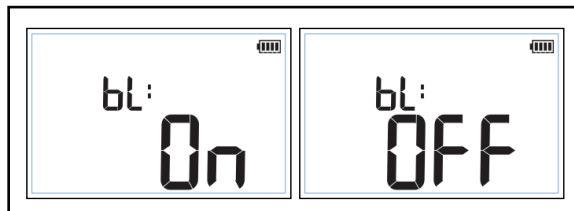

Figure 4. Backlight Setting
1. Push **SETUP** until **bl:** shows on the display. See Figure 4.